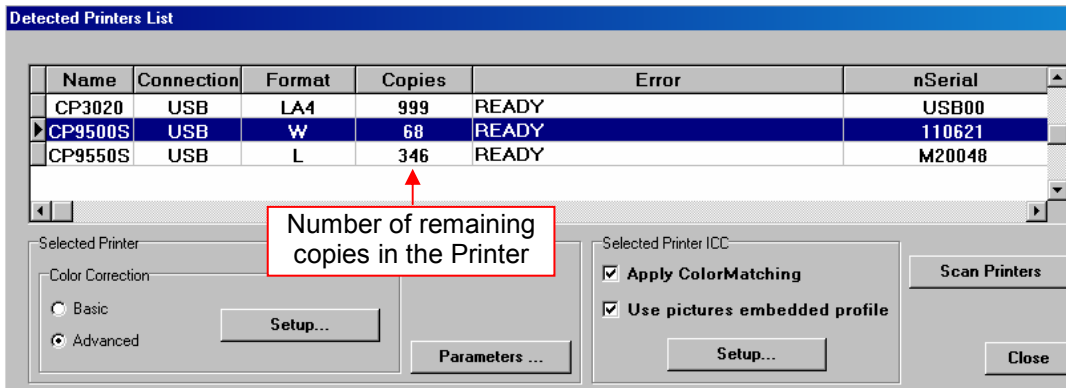
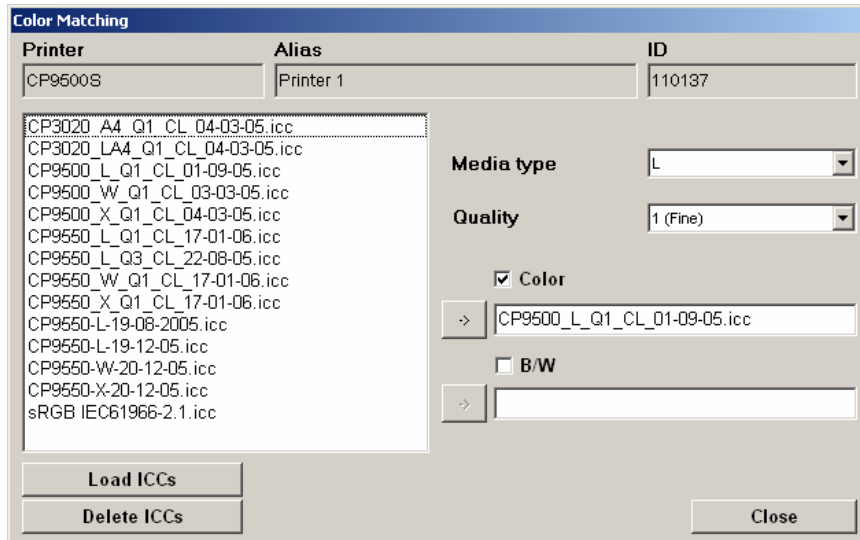

Fig. 1
Fig. 6
- 9- Press the 'ICC Settings or Setup' button on Fig. 1 to configure printer profile. On the left of Fig. 6 is the list of previously loaded profiles.
- f. Finally press the 'Close' button on the Detected Printers List on Fig. 1 to exit the PrintServer module.